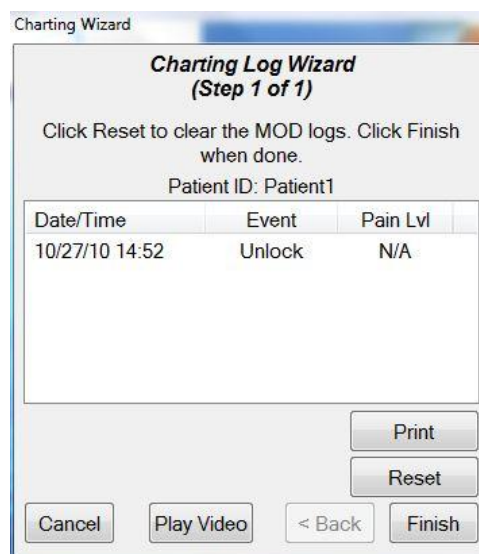

Figure 23: Charting Log on MOD[®] display screen
3. The next screen to appear will be the **Charting Log Wizard Step 1 of 1** of the current patient using the identification number of the patient (Figure 23).